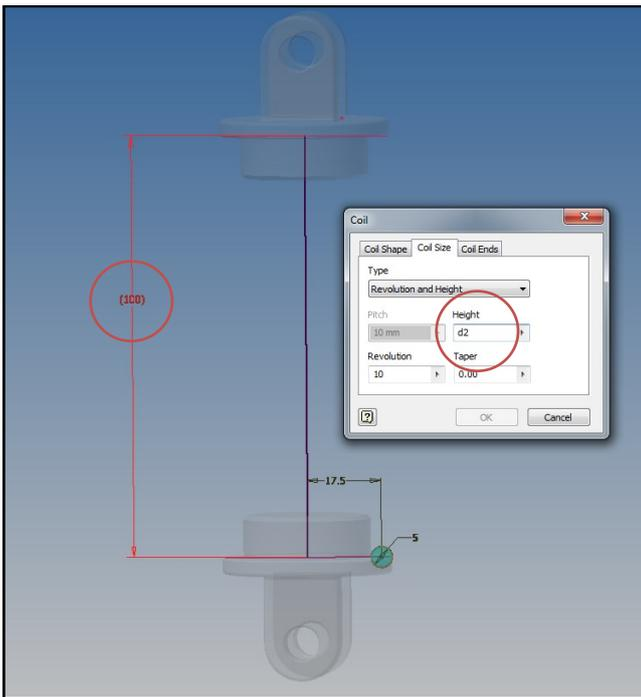

FIG 12.0
Step # 10. In the Coil Size Tab, select “*Revolution and Height*” as the type, “10” as the number of *Revolutions* , and in the *Height* text box click on the driven dimension (100) As shown in Fig 12.0